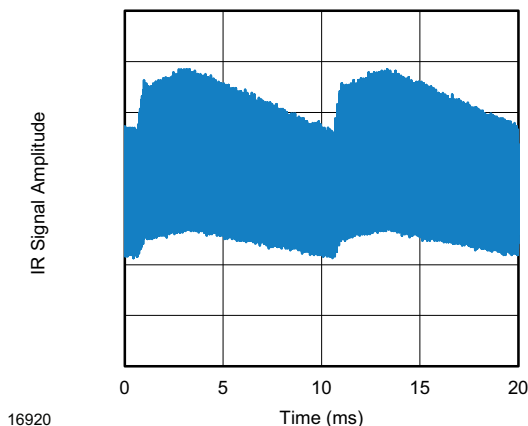

Fig. 14 - IR Disturbance from Fluorescent Lamp with Low Modulation
- Strongly or weakly modulated patterns from fluorescent lamps with electronic ballasts (see Fig. 14 or Fig. 15).